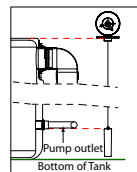

Figure 2
3. Whilst maintaining the same height of the Transmitter body slowly lower the float (**no faster than 10cm/sec**) until the top of the float is level with the bottom of the pump outlet (see Figure 2) and press SET once to confirm EMPTY height. Again, maintaining the same height of the Transmitter body and float move the red "Empty" indicator to where the black water level is pointing.